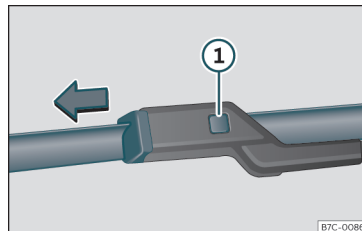

Fig. 41 Changing the windscreen wiper blades
- Press and hold release button >>> Fig. 41 ① and pull gently on the wiper blade in the direction of the arrow.